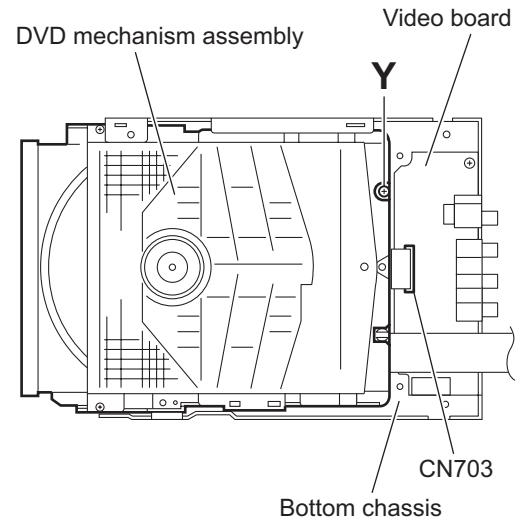

Fig.27
- (3) Disconnect the card wire from the connector **CN703** on the video board. (See Fig.27.)
- (4) Remove the screw **Y** and take out the DVD mechanism assembly from the bottom chassis. (See Fig.27.)